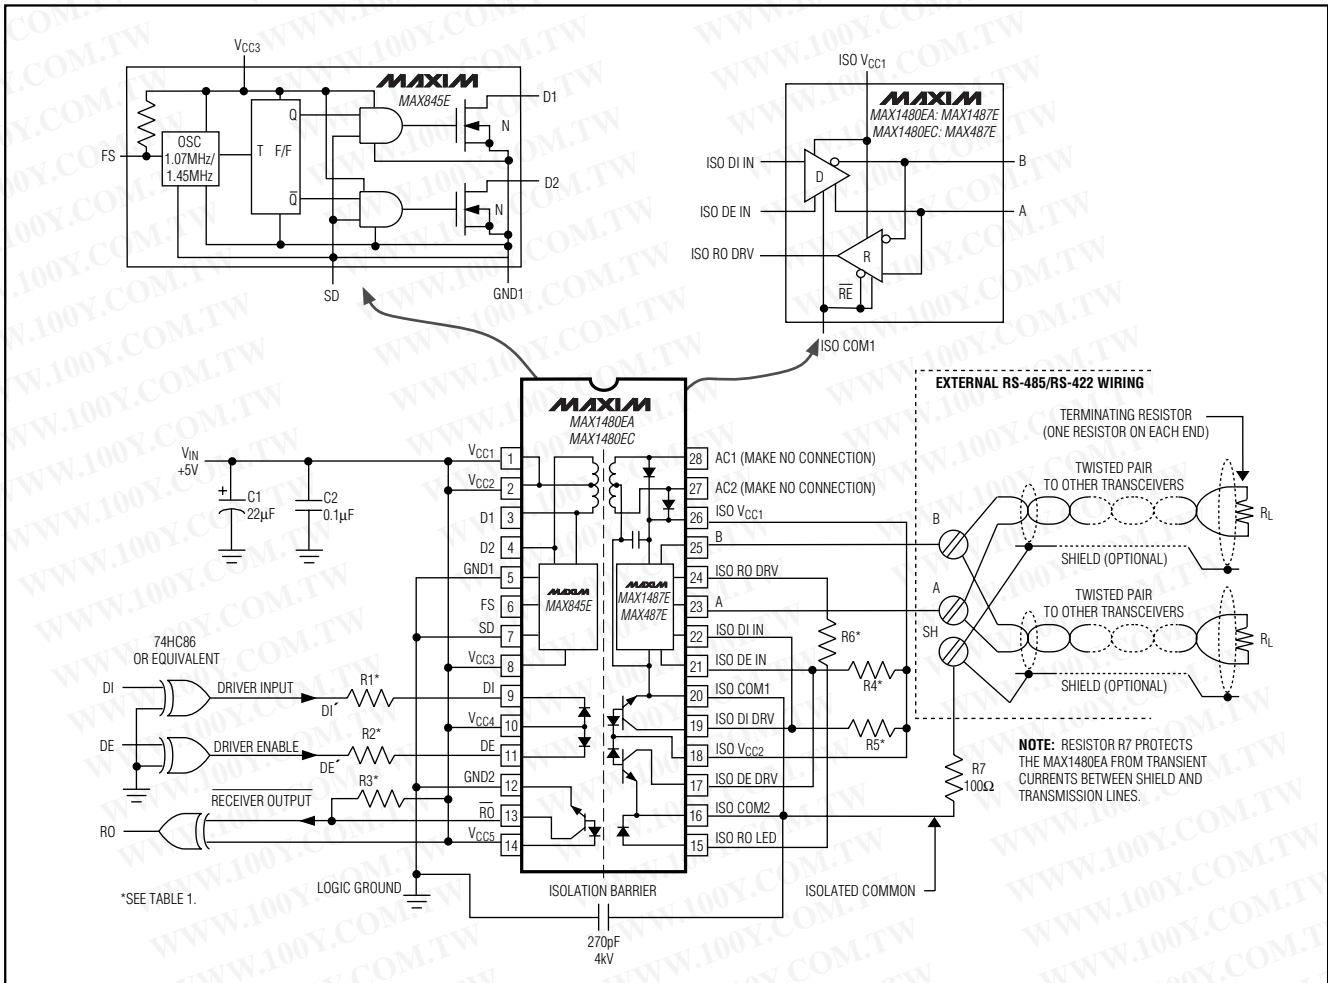
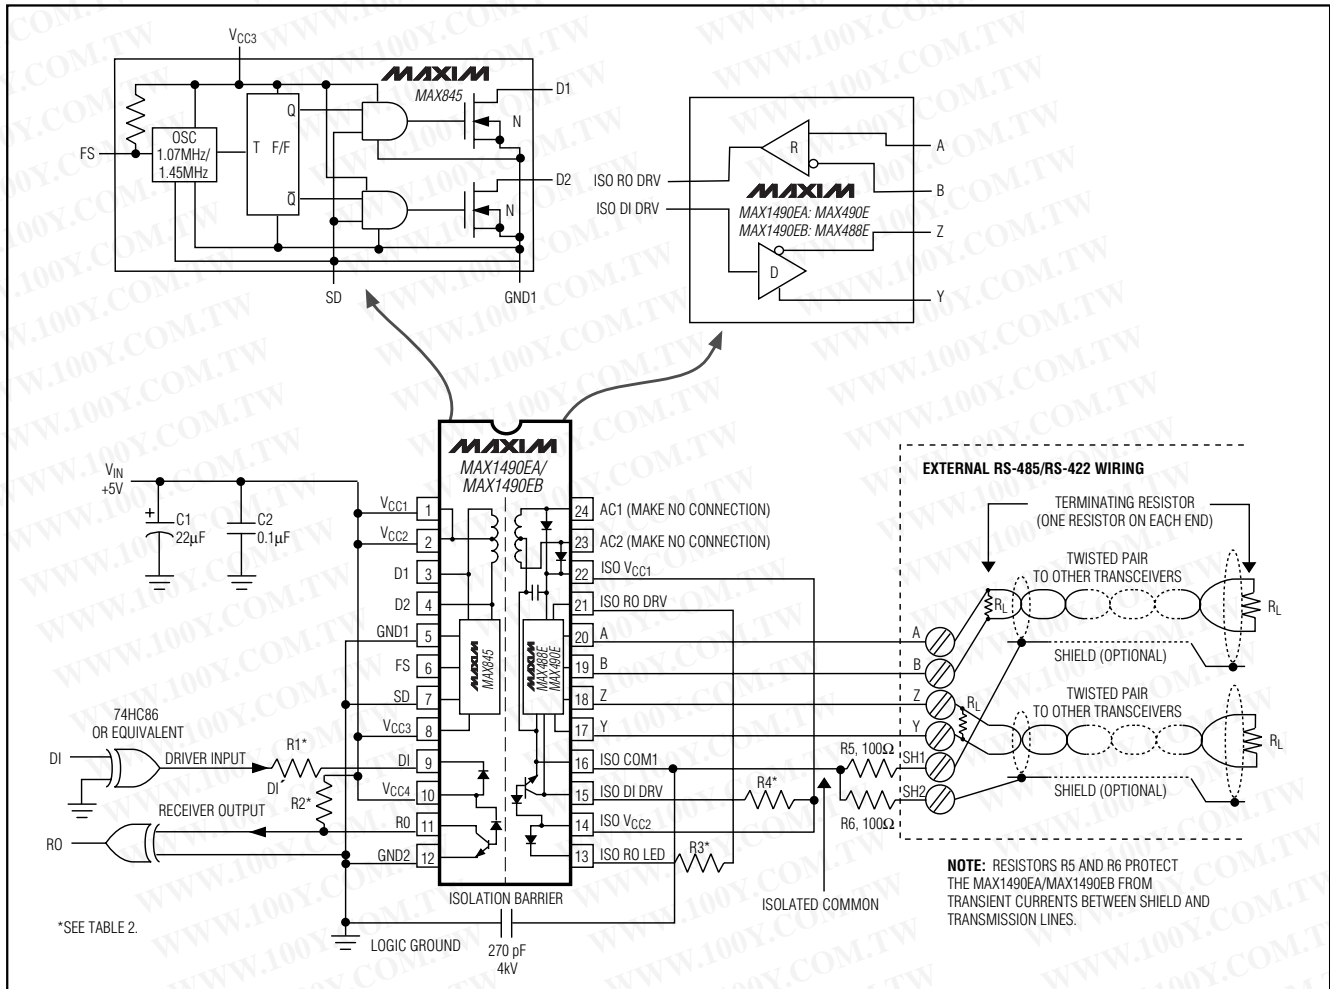

Figure 1. MAX1480EA/MAX1480EC Detailed Block Diagram and Application Circuit
Figure 2. MAX1490EA/MAX1490EB Detailed Block Diagram and Typical Application Circuit
($V_{CC-} = +5V$, $V_{FS} = V_{CC-}$, Figures 1 and 2, $T_A = +25^\circ C$, unless otherwise noted.)
($V_{CC-} = +5V$, $V_{FS} = V_{CC-}$, $V_{DI} = 0$, DE toggled 0 to 5V at 5kHz, Figures 1 and 2, $T_A = +25^\circ C$, unless otherwise noted.)
Note: For DE⁺ and DI⁺ pin descriptions, see Detailed Block Diagram and Typical Application Circuit (Figure 1 for MAX1480EA/MAX1480EC, Figure 2 for MAX1490EA/MAX1490EB).
The MAX1480EA/MAX1480EC/MAX1490EA/MAX1490EB are complete, electrically isolated, RS-485/RS-422 data-communications interface solutions. Transceivers, optocouplers, a power driver, and a transformer in one standard 28-pin DIP package (24-pin package for the MAX1490EA/MAX1490EB) provide a complete interface. Signals and power are internally transported across the isolation barrier (Figures 1, 2). Power is transferred from the logic side (nonisolated side) to the isolated side of the barrier through a center-tapped transformer. Signals cross the barrier through high-speed optocouplers. A single +5V supply on the logic side powers both sides of the interface. The MAX1480EA/MAX1480EC offer half-duplex communications while the MAX1490EA/MAX1490EB feature full-duplex communication. The functional input/output relationships are shown in Tables 3 through 6.
Table 1. Pullup and LED Drive Resistors for Figure 1
Table 2. Pullup and LED Drive Resistors for Figure 2
* For DE[′] and DI[′] pin descriptions, see Detailed Block Diagram and Typical Application Circuit (Figure 1 for MAX1480EA/MAX1480EC, Figure 2 for MAX1490EA/MAX1490EB).
The ±15kV ESD test specifications apply only to the A, B, Y, and Z I/O pins. The test surge may be referenced to either the ISO COM or to the nonisolated GND (Figures 1 and 2).